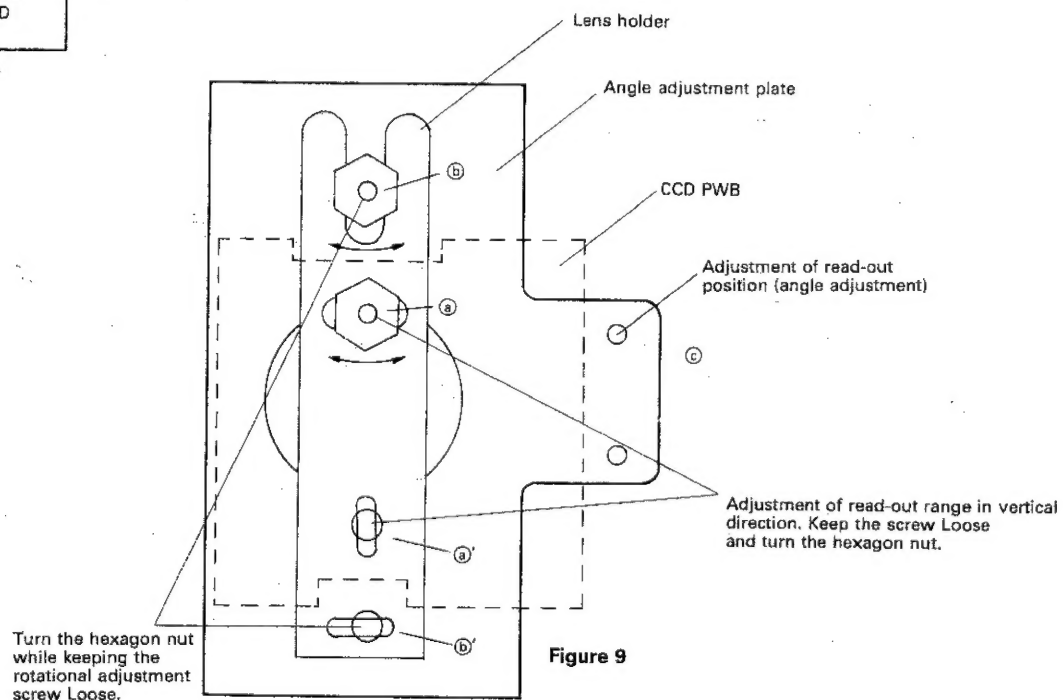

Figure 9
- (4) Loosen the screws (a) and (a') shown in Figure 9.
- (1) Make a copy of one frame and check its printing condition.
- (2) When the resultant print is like the one shown in Figure 14, turn the screw ③ shown in Figure 9 slowly counterclockwise while making copy of one frame. Stop the screw when the print becomes like the one shown in Figure 15. At this point, the adjustment is finished.
- (1) Remove the rear cover and install the printer.
- (2) Turn on the power switch and make initial setting.
- (3) Draw a perpendicular line with a black marker along with an arbitrary vertical line at the centre of the writing white sheet.
- (4) Loosen the screws ⑤ and ⑤' shown in Figure 9.